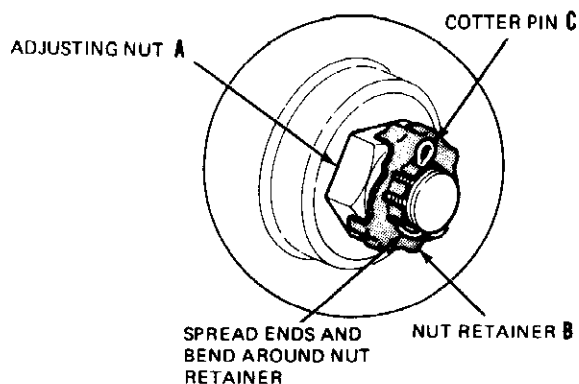

FIG. 12 Caliper, Shield and Rotor—Pin Slider Caliper
5. Remove the inner shoe and lining assembly and inspect both rotor braking surfaces (See Fig. 12). Minor scoring, or build-up of lining material does not require machining or replacement of the rotor.
Refer to Fig. 12
3. Remove the grease cap from the hub. Remove the cotter pin, nut lock, adjusting nut, and flat washer from the spindle. Remove the outer bearing cone and roller assembly (Fig. 12).
Removal: Refer to Fig. 12